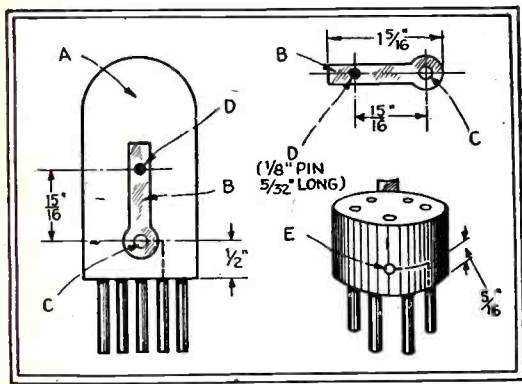

Fig. 1
I finally devised the simple method of curing this trouble shown in Fig. 1, which represents the gadget I devised for my Sterling "R522" tester. The little clip (B) was made from a "Model A" Ford spark plug lug, and fixed to the back (opposite the bayonet pin) of the 5-prong test plug (A) by an 1/8-inch screw (at C). It carries an 1/8-inch pin (D) which normally is swung up out of the way; but when the 4-prong adapter is used, it is swung around and engages the hole bored into the adapter (at E). When the plug comes up, the adapter does too.